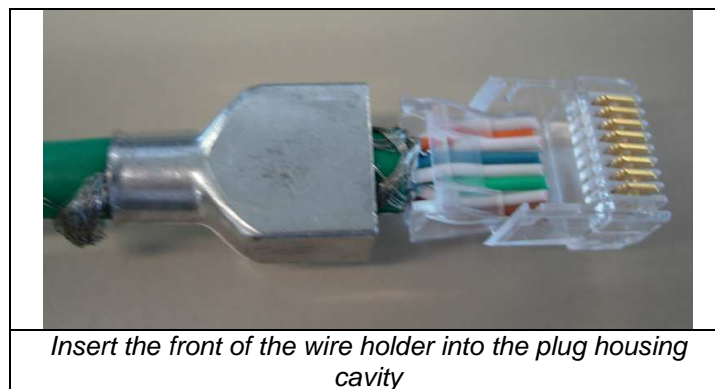

Figure 9
6. Insert the front of the wire holder and the ends of the conductors into the cavity of the plug housing. See Figure 9.